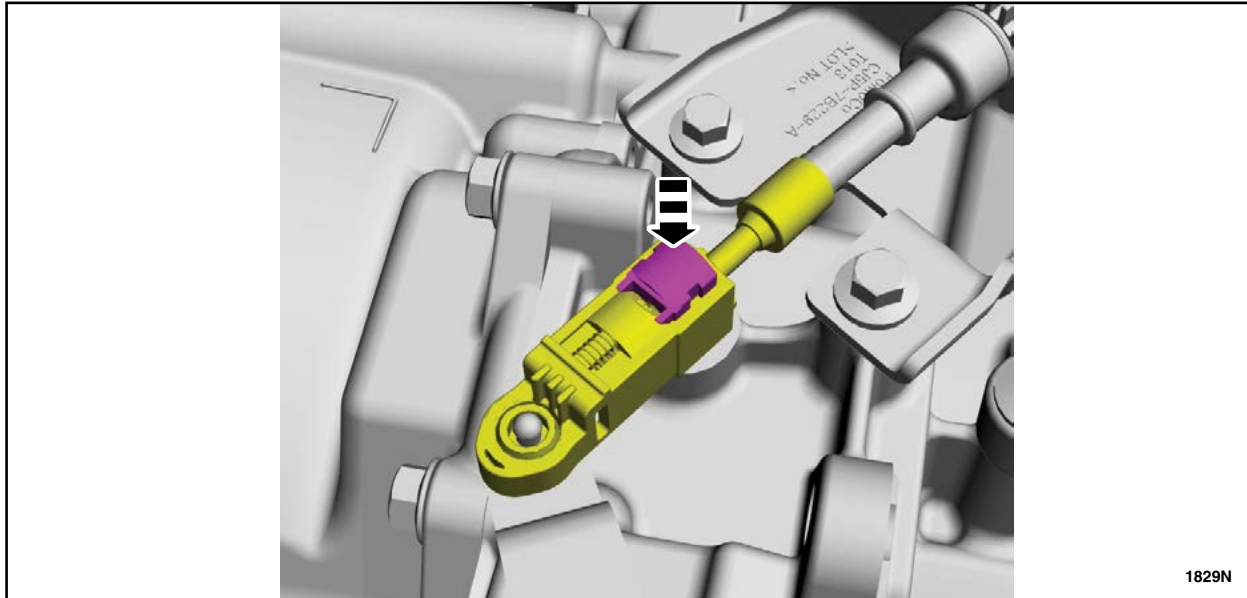

FIGURE 15
15. Slide the adjuster tab in place to lock the selector lever cable. See Figure 15.
16. Install the new protective service cap onto the selector lever cable adjuster. Clip one side into the adjuster body and then slide the other onto the housing until it snaps into place. The protective service cap should cover the bushing and the terminal end of the adjuster. See Figure 15.